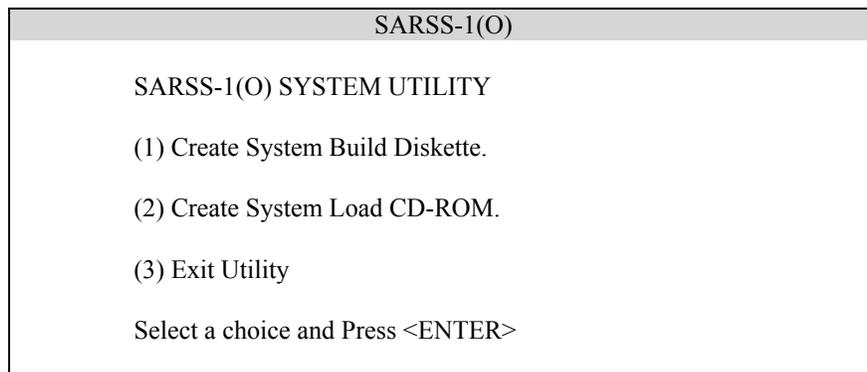
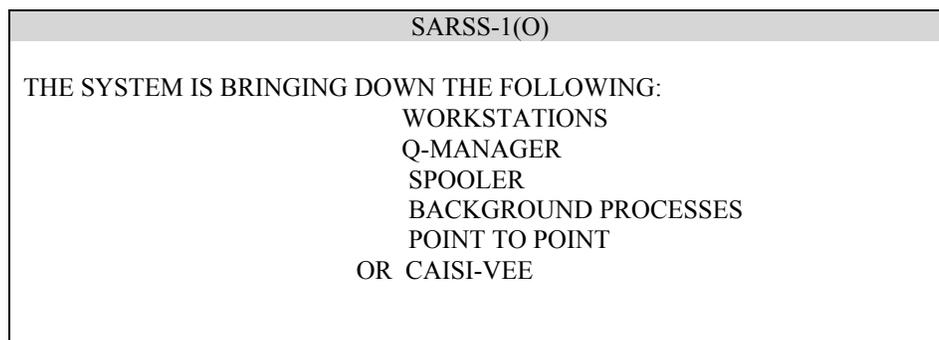
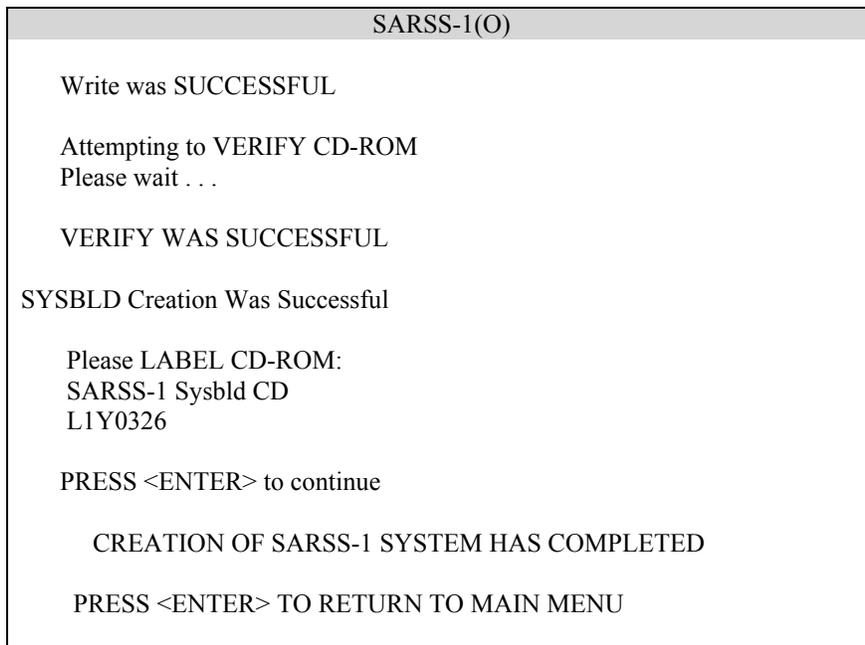
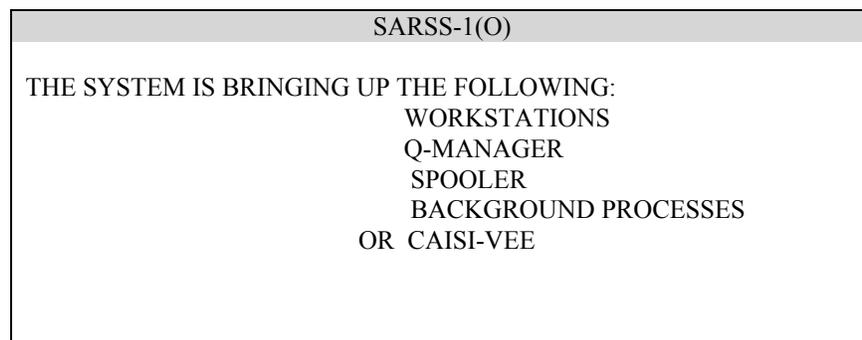

Figure 4-1 System Utility (SYSBLD) Screen
Figure 4-2 Bringing Down Processes
Figure 4-5 Successful Creation of System Load CD-ROM
Figure 4-6 Bring Processes Back Up
4.2 SYSBLD Utility. The SYSBLD utility has been changed to accommodate the replacement of the 4mm tape drive with a CD-RW drive. Option 2 in the menu has been changed (see Figure 4-1) to create a System Load CD_ROM.
4.2.1 Create System Load CD-ROM. To create a System Load CD-ROM, enter the command "SYSBLD" on the Action line and press <ESC>. The SYSBLD Utility menu will be displayed (Figure 4-1). Press "2" and Press <ENTER> to create the System Load CD-ROM. The system will bring down all workstations, communications, printing, and background processes (see Figure 4-2).
After successfully creating the System Load CD-ROM, a screen (Figure 4-5) will display messages indicating the successful creation and verification of the CD-ROM. The CD-ROM will be ejected and you will be prompted to label the CD-ROM. Press <ENTER> to continue and finally press <ENTER> return to the SYSBLD main menu (Figure 4-1).
After pressing <ENTER> to return to the main menu, the system will display a screen indicating that the processes are being brought back up (Figure 4-6). After the processes are brought back up the SYSBLD Main Menu (Figure 4-1) will be displayed. Press “3” and press <ENTER> to return to the SARSS Main Menu.